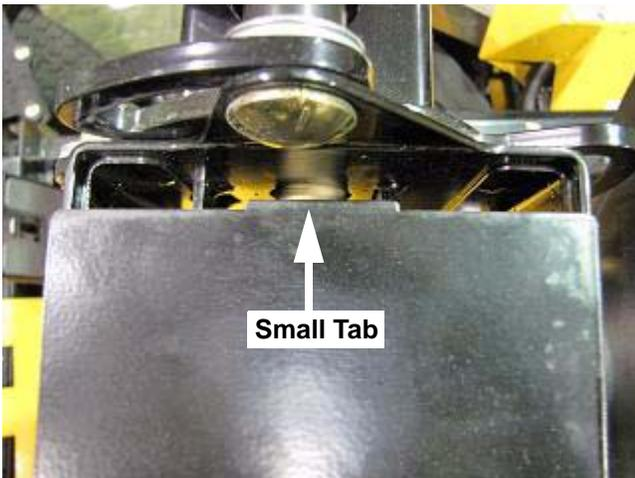

FIGURE 14
22. Install the steering box cover. **NOTE: The small tab side goes to the top as shown in Figure 14.**